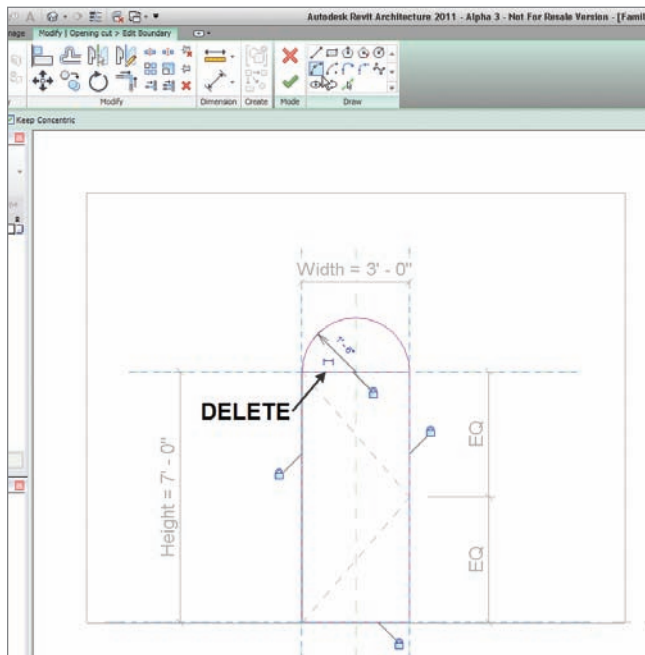

FIGURE 17.15 Rounding off the door top
8. By clicking Edit Sketch, you are now in Sketch Mode. On the Draw panel, click the Start-End-Radius Arc button, as shown in Figure 17.15.
9. Draw an arc, as shown in Figure 17.15.